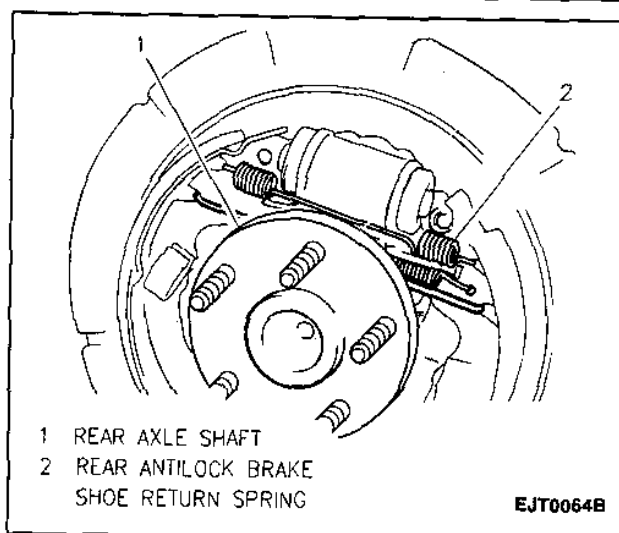

Figure 6—Rear Antilock Brake Shoe Return Spring
7. Rear antilock brake shoe return spring from both rear brake shoes (Figure 6).
10. Rear antilock brake shoe return spring to both rear brake shoes (Figure 6).